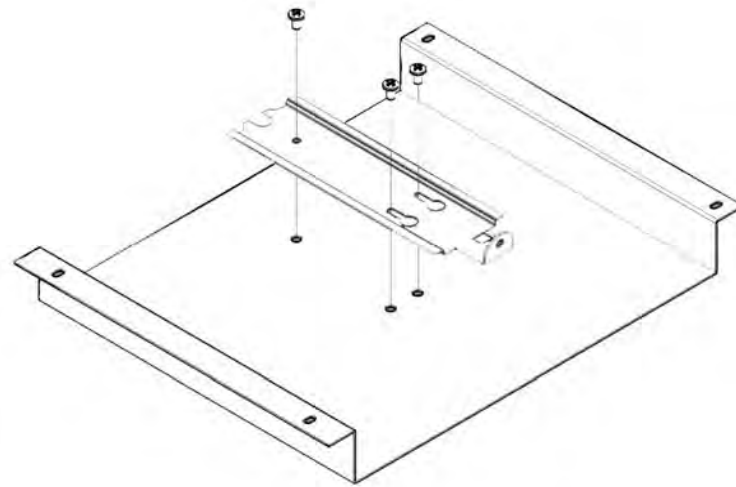

Figure 1
Step 1 – Attach the Enterasys mounting plate to the Oberon mounting plate using three (3) #8-32 screws (Ref. Figure 1).